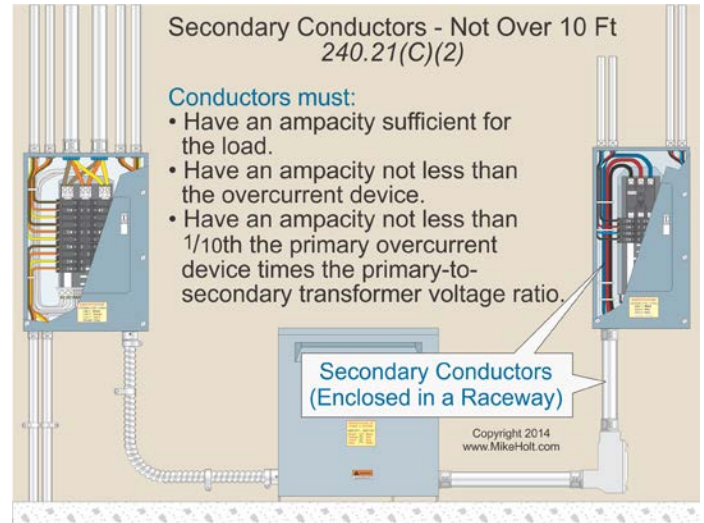

Figure 240–30
- (1) The ampacity of the secondary conductor must not be less than: **Figure 240–30**